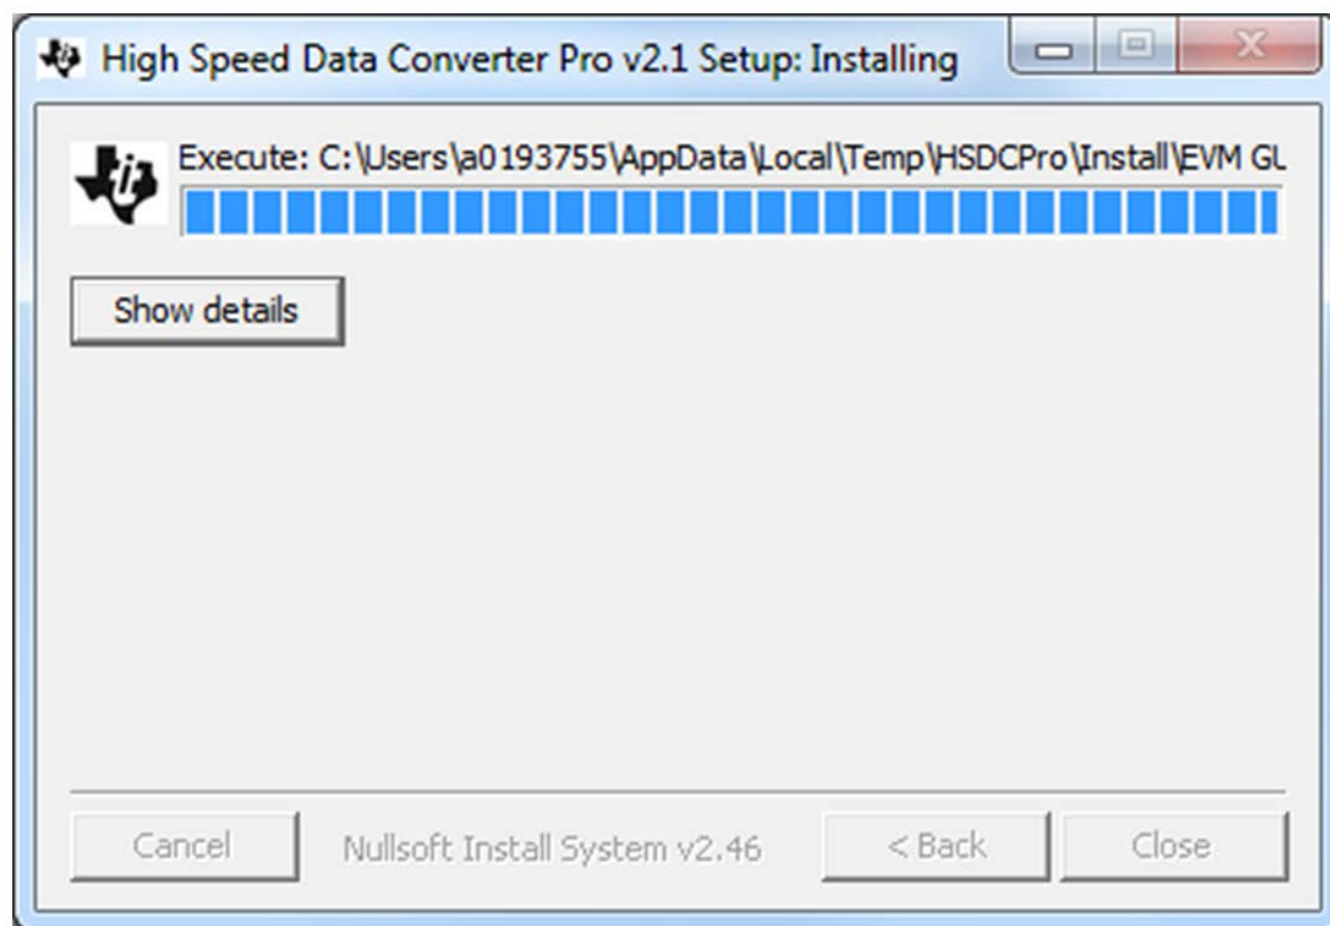

Figure 38. HSDCPro Install (h)
- The window shown in Figure 38 appears briefly to complete the process.